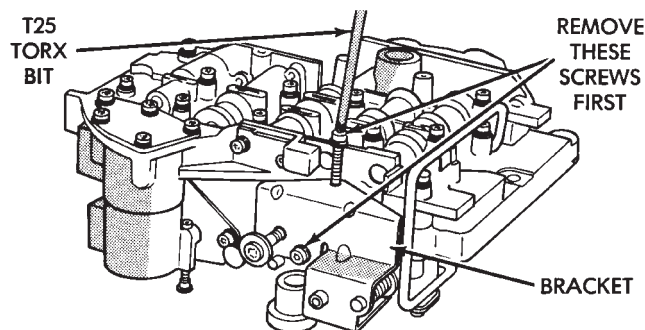

Fig. 49 Adjusting Screw Bracket Fastener
(19) Remove screws attaching pressure adjusting screw bracket to valve body and transfer plate (Fig. 49). Hold bracket firmly against spring tension while removing last screw.